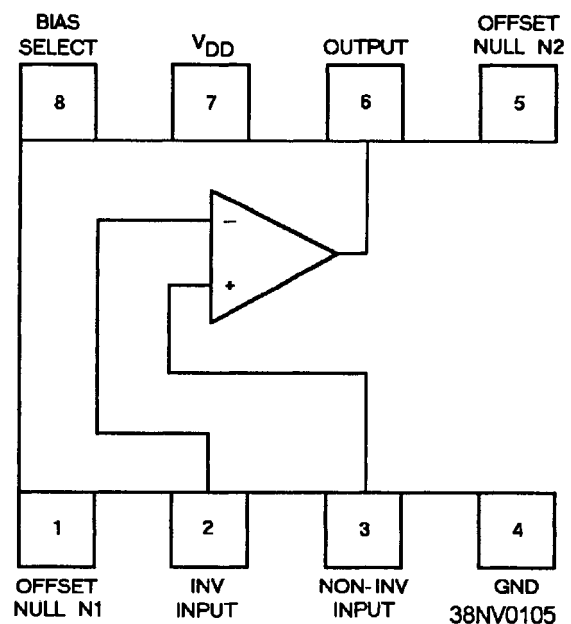

Figure 4-30.—Example of a Lin CMOS—Silicon gate MOSFET.
- Lin CMOS allows for linear and digital logic on the same IC. See figure 4-30.